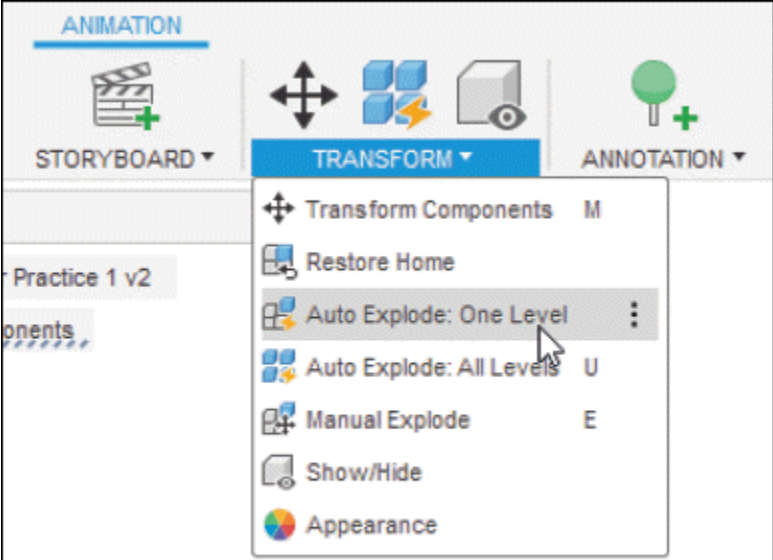
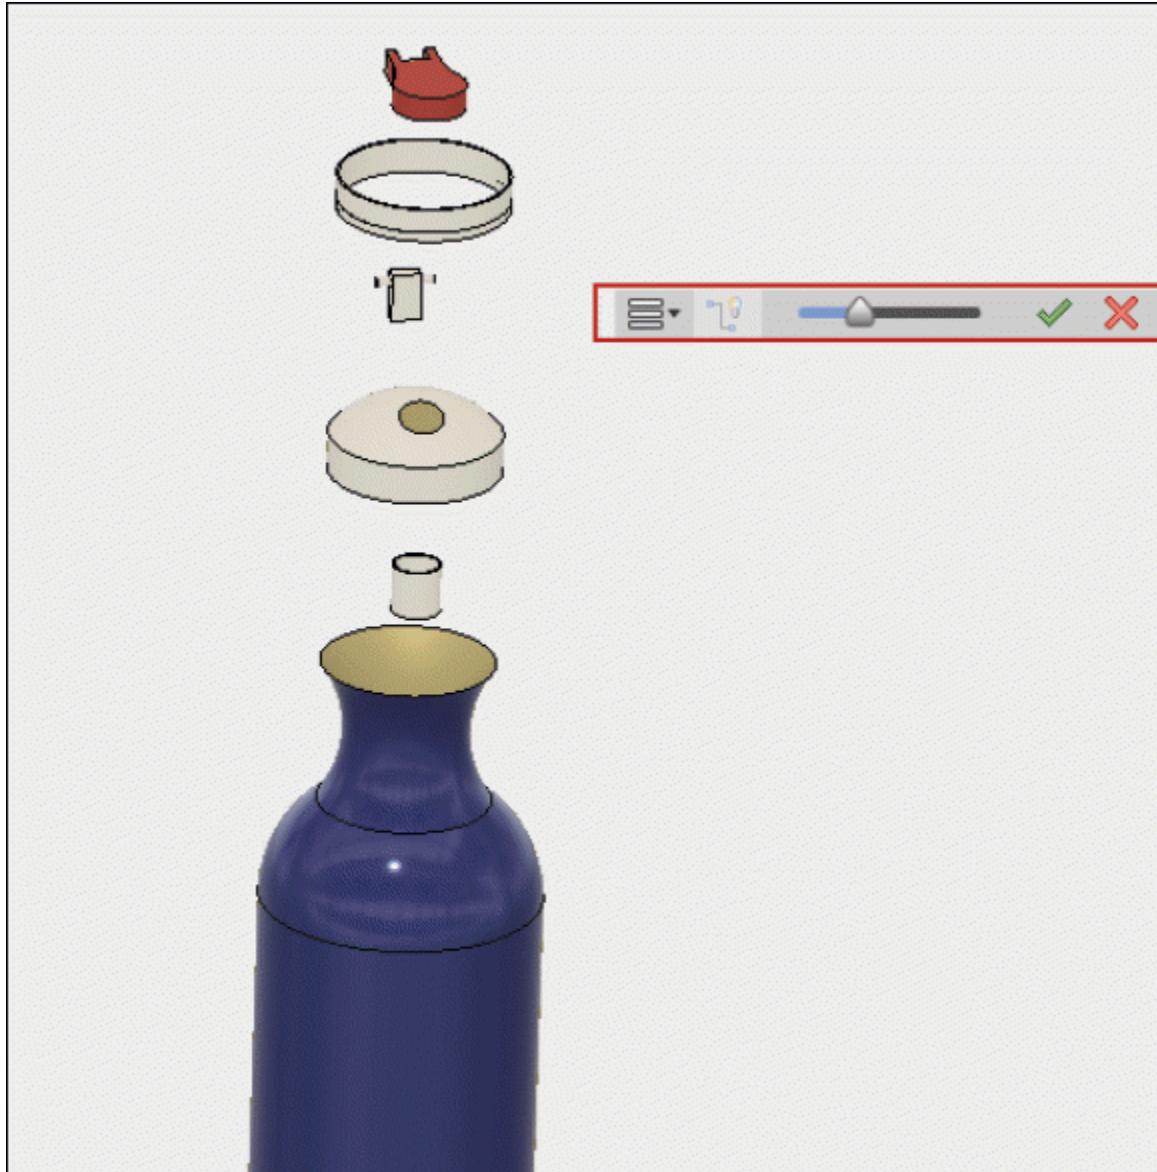

Figure-41. Auto Explode One Level tool
Figure-42. Preview of Auto Explode One Level
- Click on the **Auto Explode: One Level** tool from **TRANSFORM** drop-down; refer to Figure-41. The components will be separated on the canvas screen; refer to Figure-42.